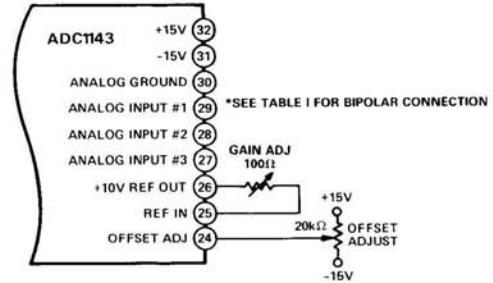

Figure 3. Offset and Gain Calibration
See Figure 3 for proper connections.
For operation, the only connections to the ADC1143 that are necessary are the power supplies, internal or external reference, input voltage pin programming, convert command and digital output. Refer to Table I for input pin programming and Figure 3 for offset and gain calibration.
Initial offset and gain errors can be adjusted to zero by potentiometers as shown in Figure 3. Proper offset and gain calibration requires great care and the use of extremely sensitive and accurate reference instruments. The voltage reference used as a signal source must be very stable and have the capability of being set within $\pm 1\mu V$ of the desired value. The potentiometers should be good quality cermet type. Multiturn potentiometers having ten to fifteen turns and $\pm 100ppm/^\circ C$ temperature coefficients will be adequate. The temperature coefficient contribution will be less than $\pm 0.1ppm/^\circ C$.
*If internal reference is used, Pins 25 and 26 must be connected together through a 100 Ω potentiometer or 49.9 Ω fixed resistor (see Figure 3 and Gain Calibration Section).